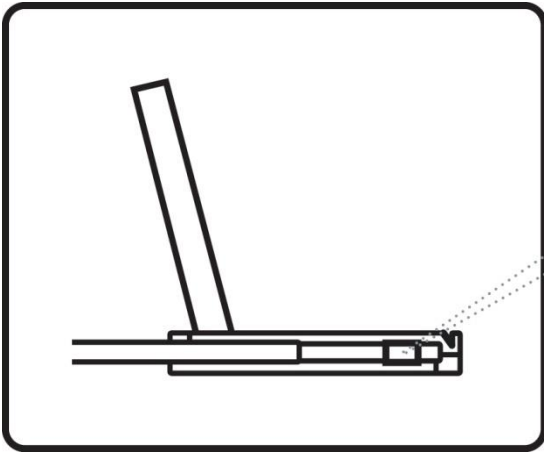

Figure 1.
- A black arrow release button is located on the outside of each slide. (Shown in **Figure 1**).